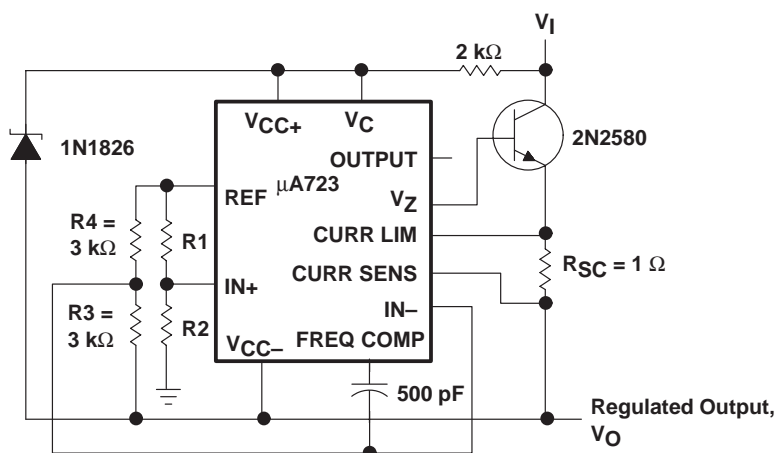

Figure 7. Positive Floating Regulator
| OUTPUTS FROM 2 V TO 7 V SEE FIGURES 1, 5, 6, 9, 11, 12 (4) AND NOTE 5 | OUTPUTS FROM 4 V TO 250 V SEE FIGURE 7 AND NOTE 5 | CURRENT LIMITING |